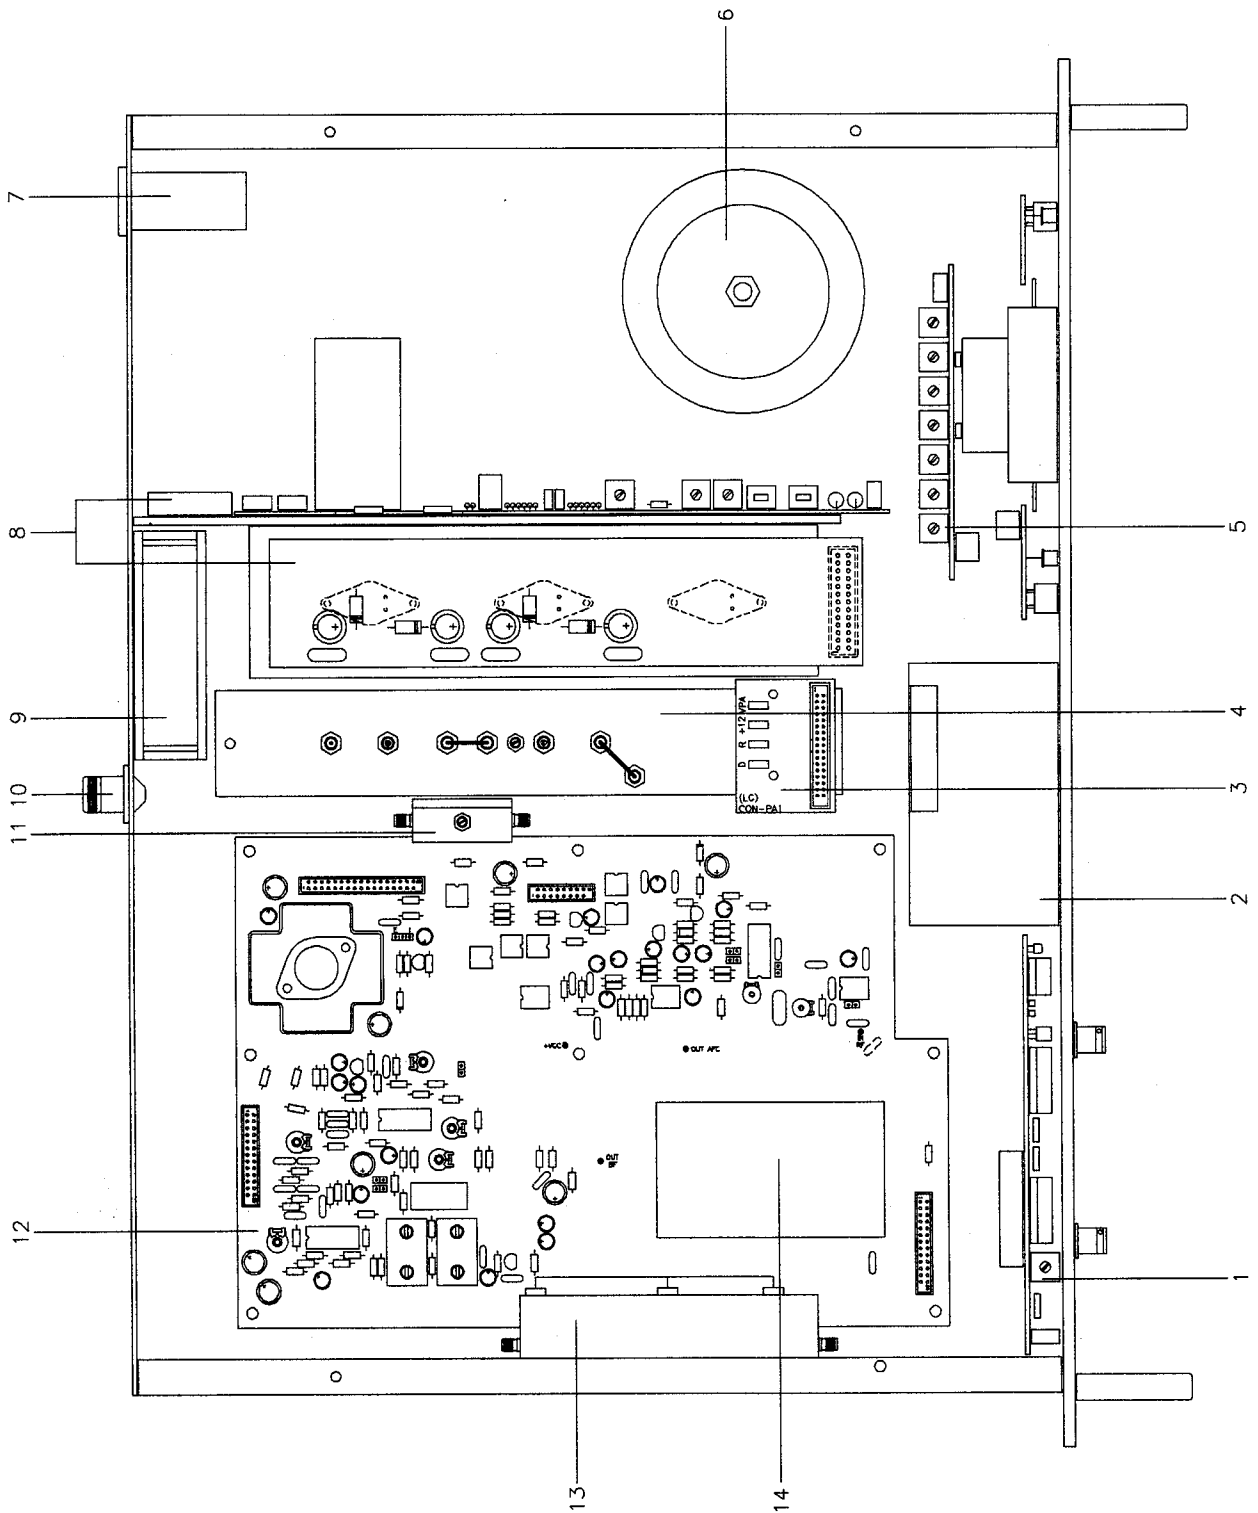

FIG. 3A
The Main card (12 Fig.3A-3B-3C) is situated on the lower left side of the units.
This card contains a voltage-controlled oscillator (14 Fig.3A-3B-3C), housed in a metal box, which generates a frequency equal to half that of the operating frequency of the transmitter which has been programmed. The output signal of the VCO is amplified prior to use by the final stage and the phase-locked loop (PLL).
This R.F. Power amplifier is composed of two circuits: the first stage amplifies until 1W and the second stage until 2W (only for version until 2W). The two power stage are mounted into boxes a totally enclosed metal screening box which, in turn, are mounted to the base of the chassis in a central position (4 Fig.3A-3B).
The CPU is housed in a metal box and mounted centrally on the rear of the front panel (2 Fig.3A-3B-3C).
This card (1 Fig.3A-3B-3C) is mounted on the left side of the front panel. This circuit allows the deviation of the VCO frequency to be displayed by rectifying the audio signal injected to the Main card.
This circuit comprises two cards and a meter mounted on the right hand side of the front panel (5 Fig.3A-3B-3C).
This card is mounted to the left side of the unit, in a central position (13 Fig.3A-3B-3C).
**TOP VIEW DESCRIPTION OF PTRL-NV/2 1W (Fig.3A)**